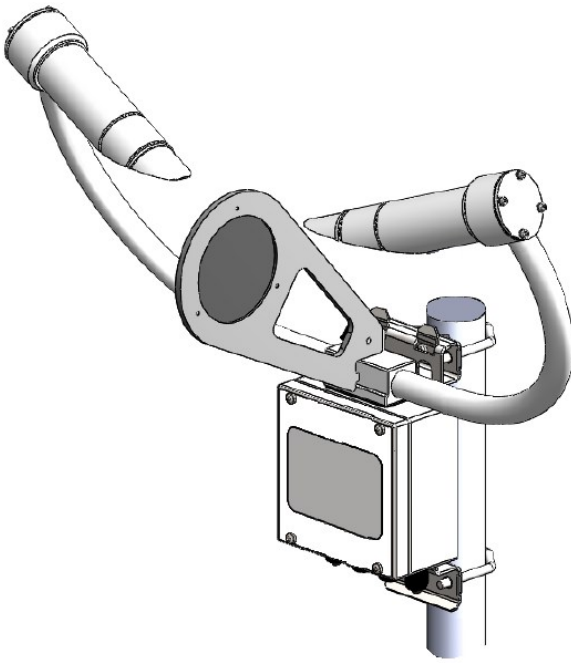

Figure 8-2. Mounting calibration disk
9. Place the sensor calibrator into the volume by fastening it to the central mounting point (see Figure 8-2 [p. 45]).